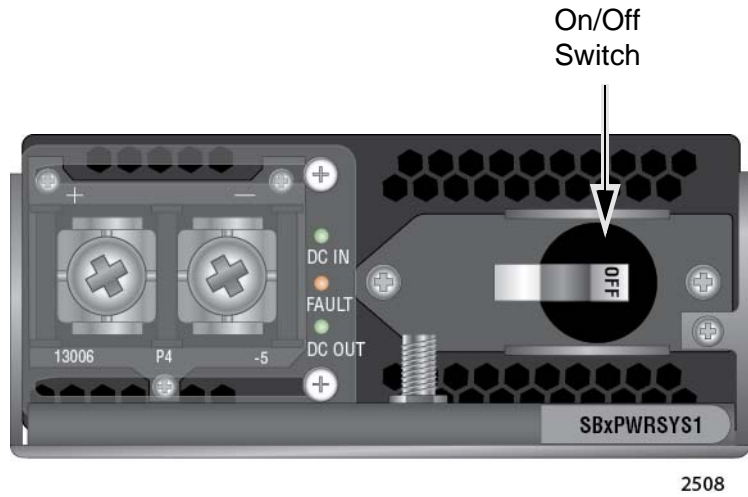

Figure 63. On/Off Switch on the AT-SBxPWRSYS1 DC Power Supply
4. Verify that the On/Off switch on the power supply is in the Off position. Refer to Figure 63 on page 135.